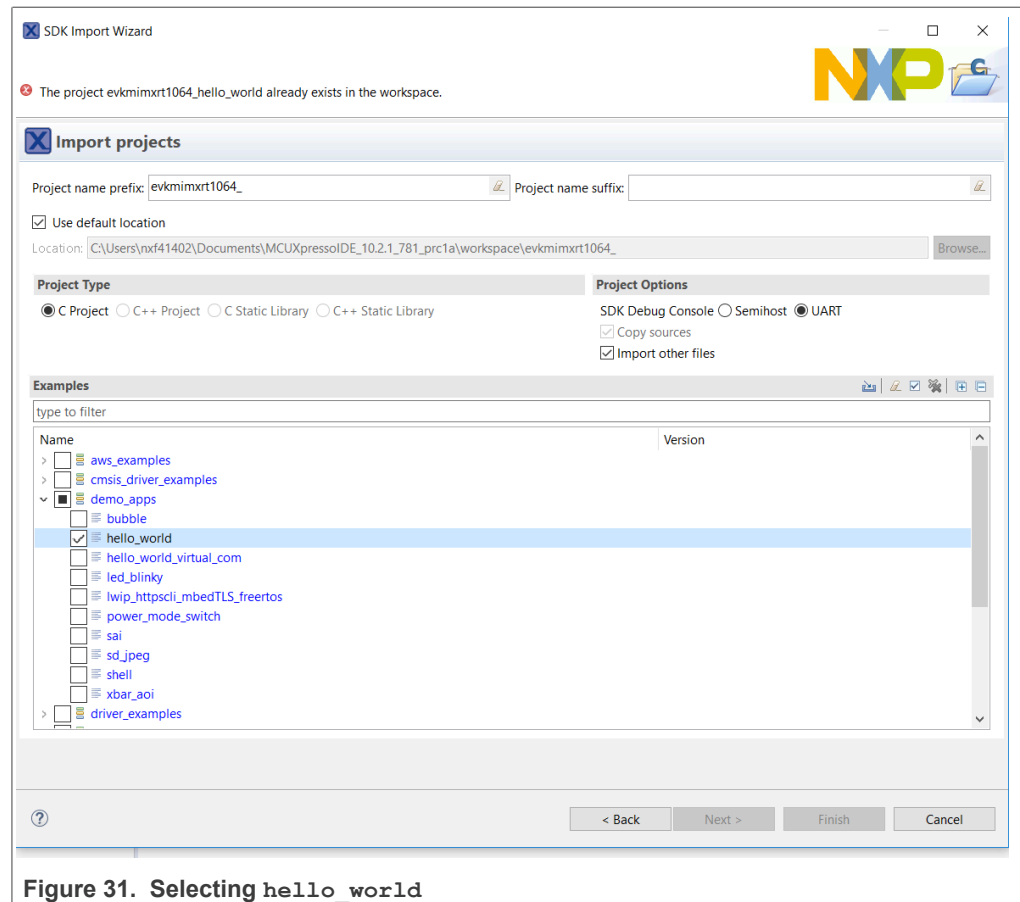

Figure 31. Selecting hello_world
4. Expand the demo_apps folder, select hello_world, and then click **Next**, as shown in Figure 31.